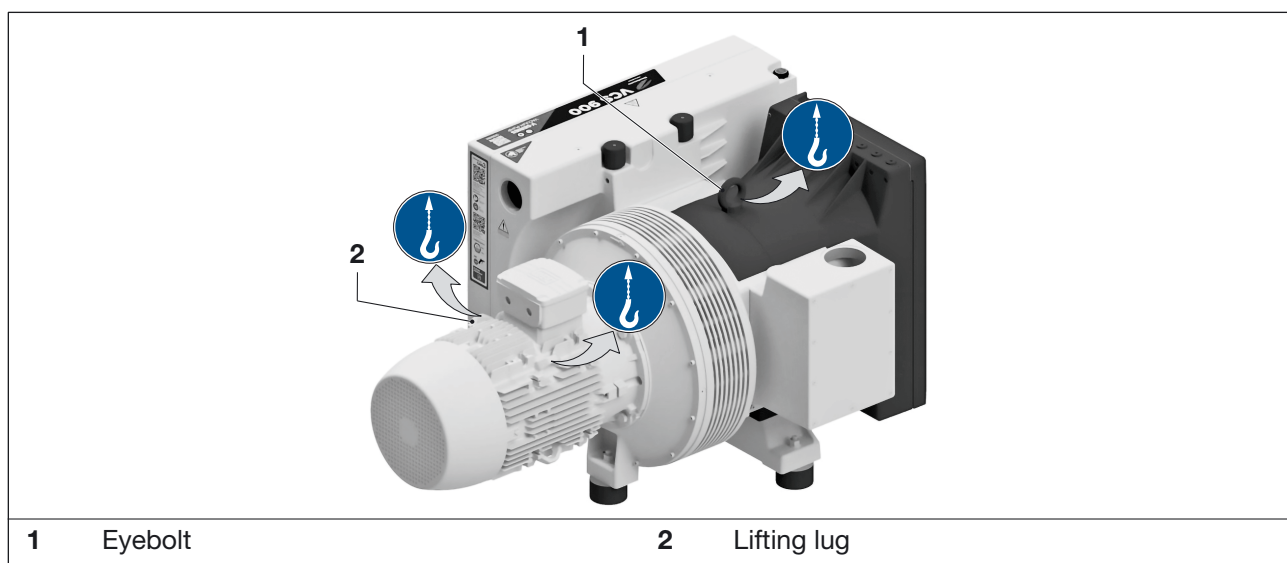

Fig. 1 Load handling equipment for lifting and transporting
- b) Tighten the eyebolt (Fig. 1/1) on the vacuum pump. If the motor is supplied with an eyebolt, tighten it as well firmly.